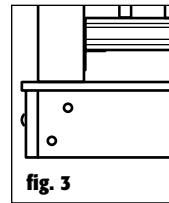

fig. 3
Step 3: Position, plumb with a level and clamp the rail post on the interior face of the joist. Plumb again. The 4x4 railing post should be bolted to the inside of the joists using two 1/2"x6" galvanized carriage bolts. Corner posts use a third carriage bolt inserted through the adjacent joist (Figure 3). **Step 4:** Install decking; notch deck boards to fit around the 4x4 railing posts. Allow 1/4" space between the deck boards and any permanent structure or post. Additional blocking may be necessary on the 4x4 for fastening deck boards.